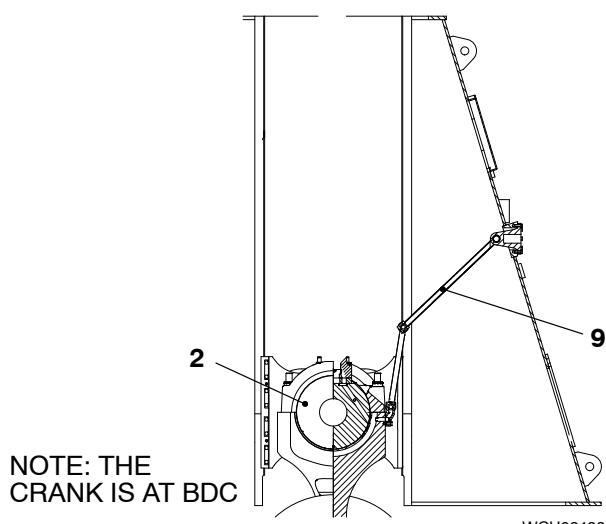

Fig. 14
- 32) Carefully lower the crosshead pin (2, Fig.14) on to the connecting rod.
- 35) Remove the protection from the crosshead pin (2).